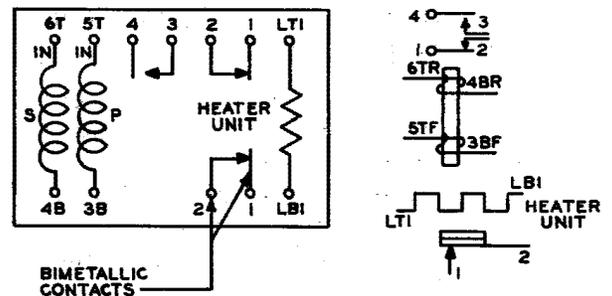

Fig. 56 – Winding and Spring Terminal Arrangement as Viewed From the Rear (terminal side) — 282-Type Relay
2.69 As viewed from the front, all springs on the relay, and the terminals of the heater winding of the thermal unit are located to the left of the armature. The terminals of the inductive windings (Y-type relay coil) are located to the right. All springs and all winding terminals except those of the heater winding are designated the same as on Y-type relays described in 2.17 through 2.24. The terminals of the heater unit winding, located to the left of the contact springs, are designated LT and LB, respectively, in the top and bottom row. As viewed from the rear, the contact spring and winding terminals are designated as shown in Fig. 56. The circuit